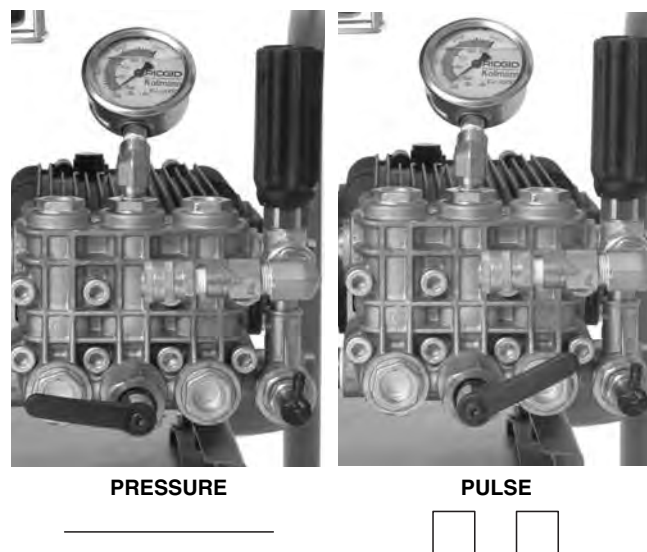

Figure 16 – Pulse Actuator Lever Position
3. Confirm that the pulse actuator lever is rotated counter-clockwise in the "Pressure" position (*Figure 16*).